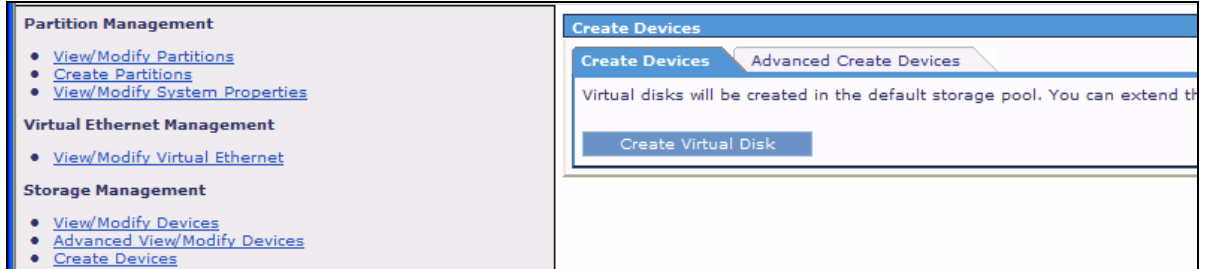

Figure 39. Creating a storage pool
1. From the left navigation panel (see Figure 39), click **Create Devices**. Then, click the **Advanced Create Devices** tab and click **Create Virtual Disk**.